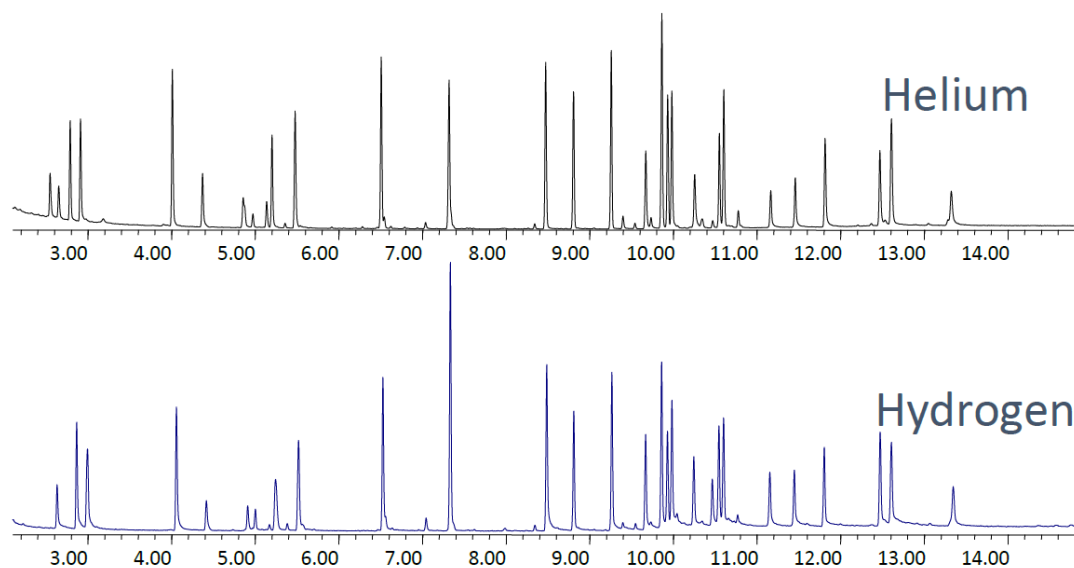

Figure 15. Drug test mix (5 ng/component) runs with helium carrier gas (top) and hydrogen carrier gas (bottom) after conditioning overnight.
**Figure 15** shows the dramatic improvement obtained with the overnight conditioning step, greatly reducing all three problems of high background, high noise, and severe tailing.